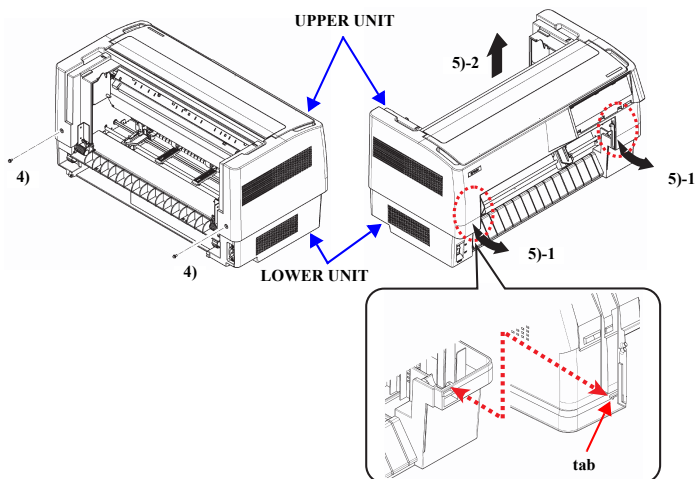

Figure 4-7. UPPER UNIT Removal (1)
5. Pull the two parts of the UPPER UNIT shown in Figure 4-7 toward you to release the two tabs (right and left) that secure the UPPER UNIT to the LOWER UNIT, and lift the UPPER UNIT upward to remove it.